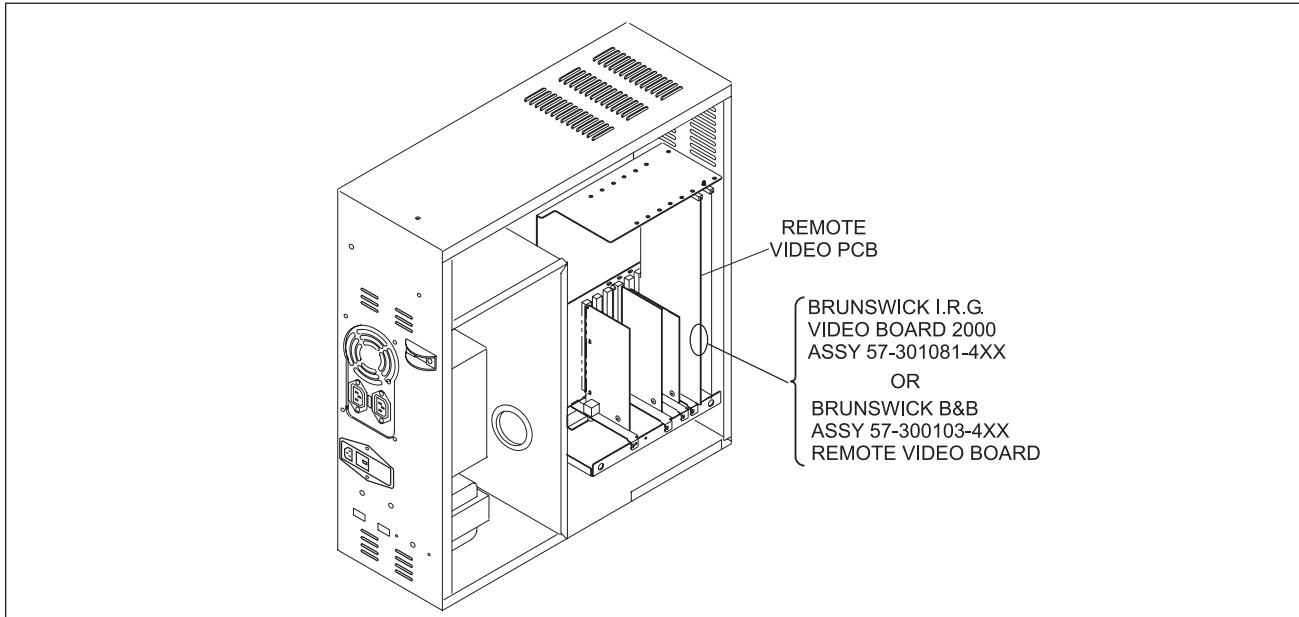

Figure 1. Lane Group Processor Remote Video Board Location
1. Verify the type of "Remote Video Board" the center has. There are two locations the "Remote Video Boards" can be located, in the Lane Group Processor (LGP) or the shaver console. Refer to *Figures 1 & 2*. The LGP is located on the curtain wall. If there is not an LGP then the "Remote Video Board" is located inside the shaver scoring console.
2. Refer to *Figures 1 and 2* for the location of the "Remote Video Board" part number.